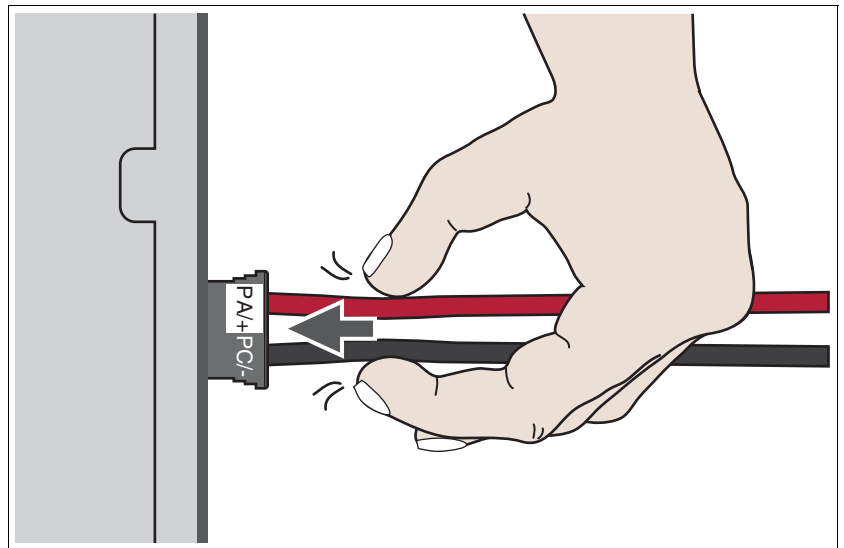

Figure 5.3 Unlocking the DC bus connector, step 1: Push cables towards connector.
- Push the two wires towards the connector (see Figure 5.3).